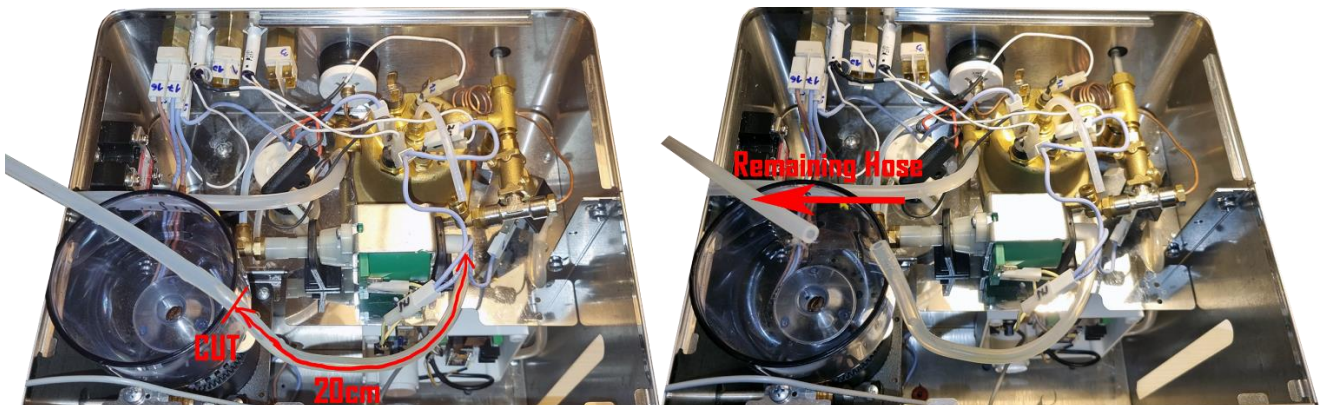

Fig. 4.1
- The meter will be installed on the pump hose. Cut the hose at 20 cm from the pump like in (fig. 4.1). We will not use the remaining hose.